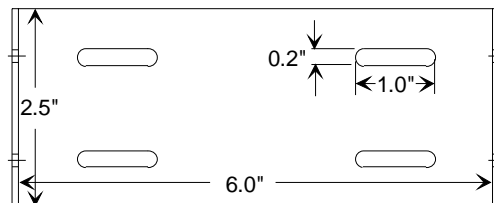

Figure 1 - Mounting plate and slot dimensions
2. Using the installation bracket as a template, mark the four locations for drilling (see Figure 1). Again, ensure that drilling at the selected points is safe and will not cause damage.